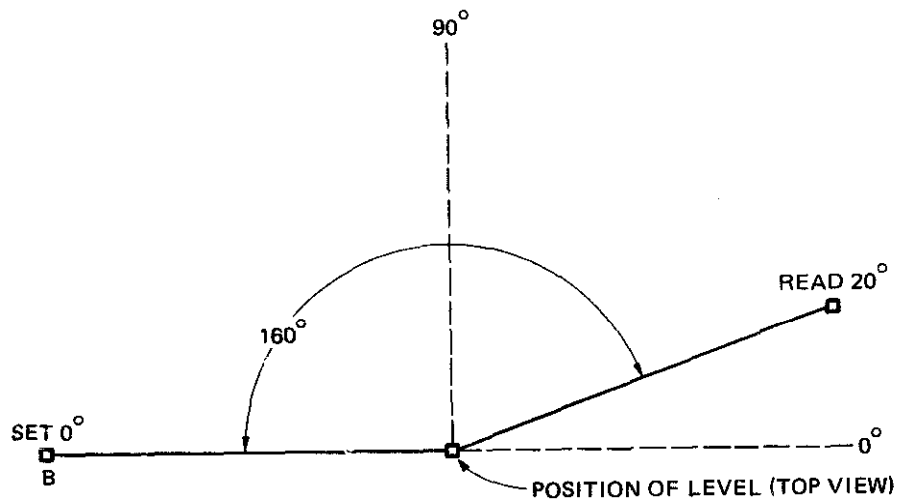

Fig. 5-44 Measuring an angle greater than 90 degrees
5. If the angle is greater than 90° , the vernier will travel out of the original quadrant as shown in figure 5-44. The reading 20° shown is measured from the direction opposite to B. Thus, the angle is $90^\circ + 90^\circ - 20^\circ = 160^\circ$. If the reading were $21^\circ 35'$, the angle would be computed as follows: $90^\circ + 90^\circ - 21^\circ 35' = 158^\circ 25'$.